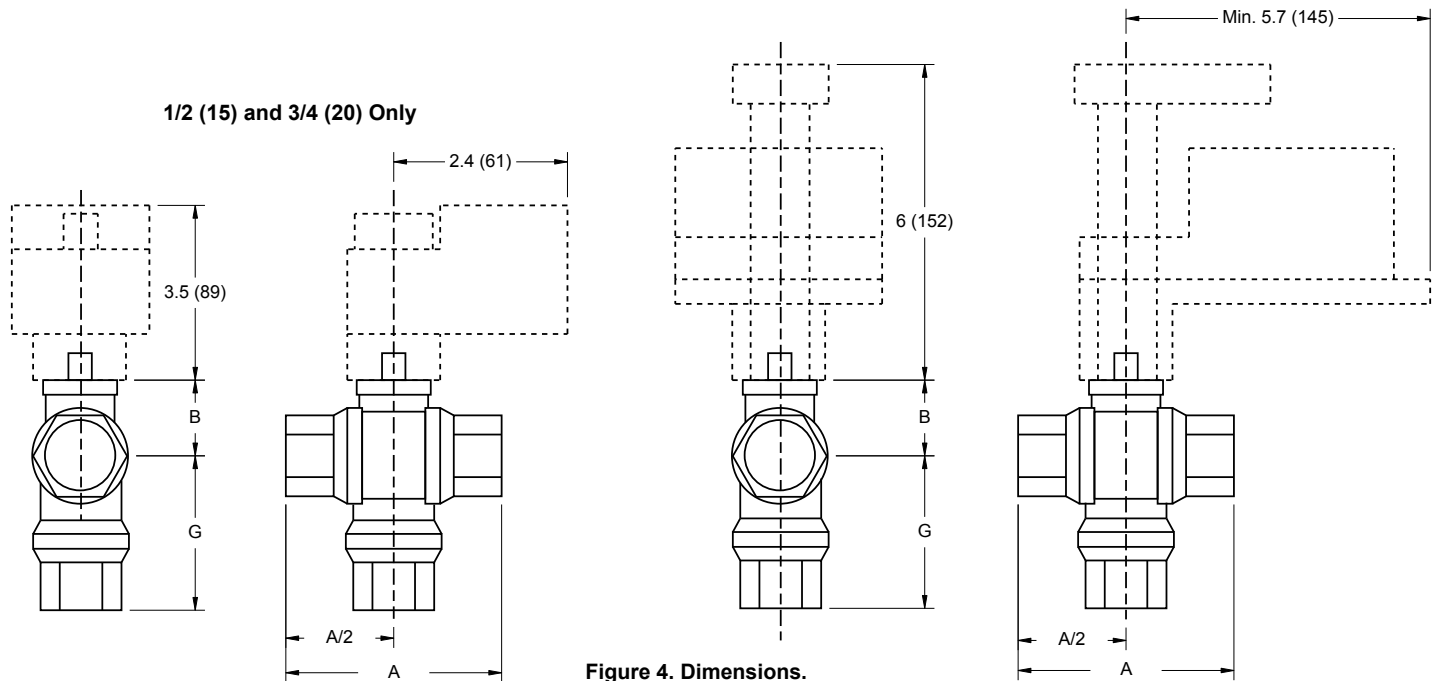

Figure 4. Dimensions.
Dimensions and service envelope	See Figure 4 and Table 3.
- Allow sufficient space for servicing the valve and actuator. See Figure 4 for valve body dimensions and service envelope.